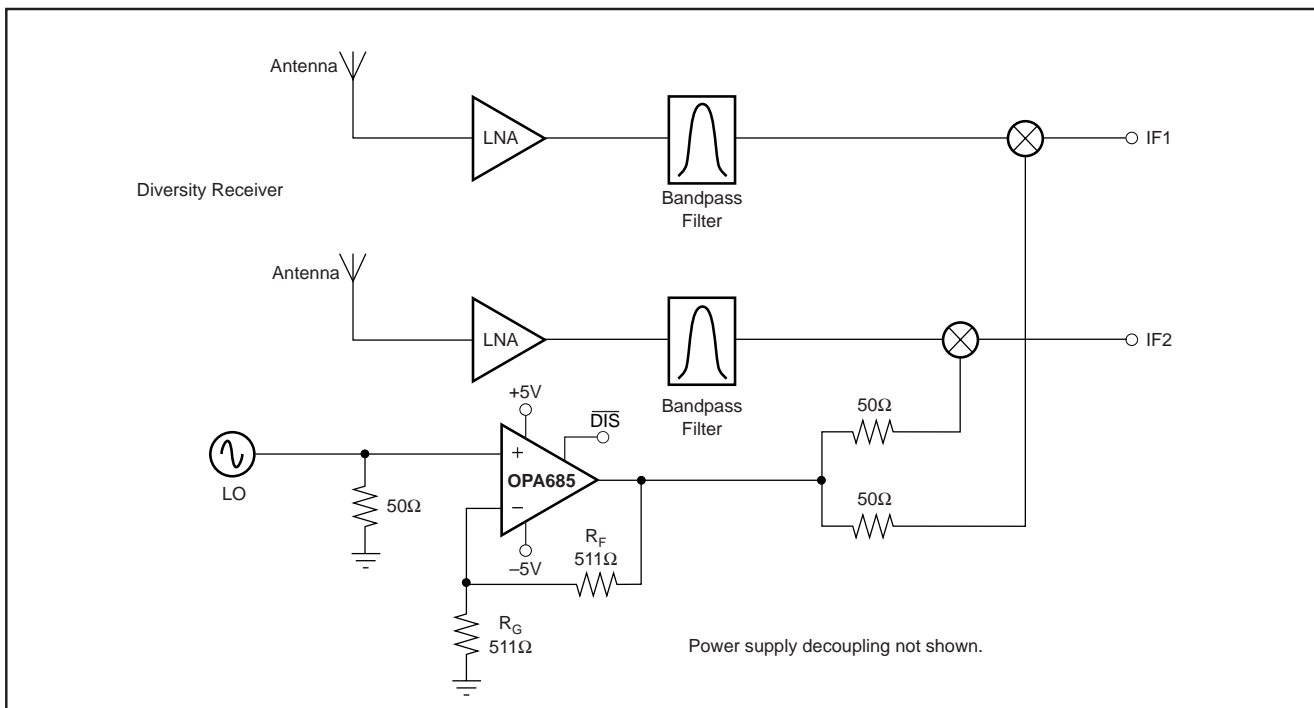

FIGURE 6. Dual Output LO Buffer.
The OPA685 may also be used to buffer the Local Oscillator (LO) from the mixer(s). Operating at a voltage gain of  $+2$ , the OPA685 will provide almost perfect load isolation for the LO with a net gain of 0dB to the mixer. Applications through 1GHz LOs may be considered, but best operation would be for LOs  $< 500\text{MHz}$  at a gain of  $+2$ . Gain could also be easily provided by the OPA685 to drive higher power levels into the mixer. One unique option in using the OPA685 as an LO buffer is shown in Figure 6. Since the OPA685 can